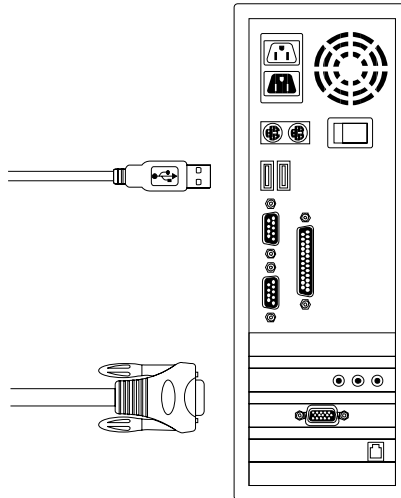

Figure 5: USB and VGA video connected
C. Connect only USB and VGA connectors to computers. (Figure 5).